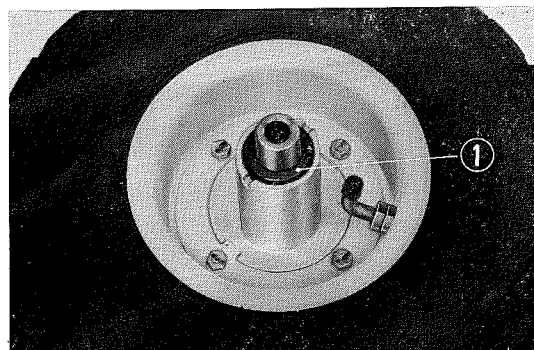

Fig. 59 ① Oil seal
6. Check the oil seal for damage, buckling and wear. If worn or damaged, replace with new one. (Fig. 59)